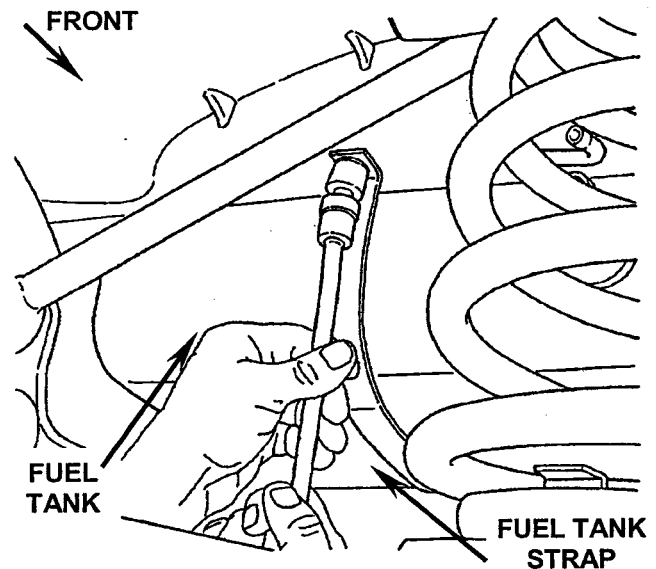

Figure 1
3. Remove the bolts from the fuel tank straps (Figure 1).